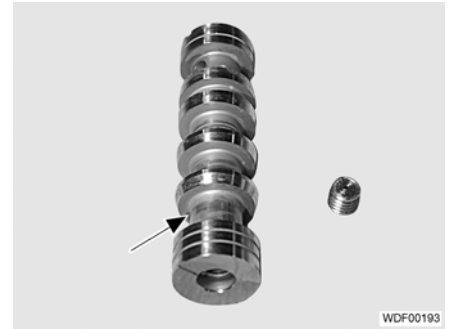

Fig. 218 Individual parts
- ▷ If necessary, hold control piston in the recesses (Fig. 218).